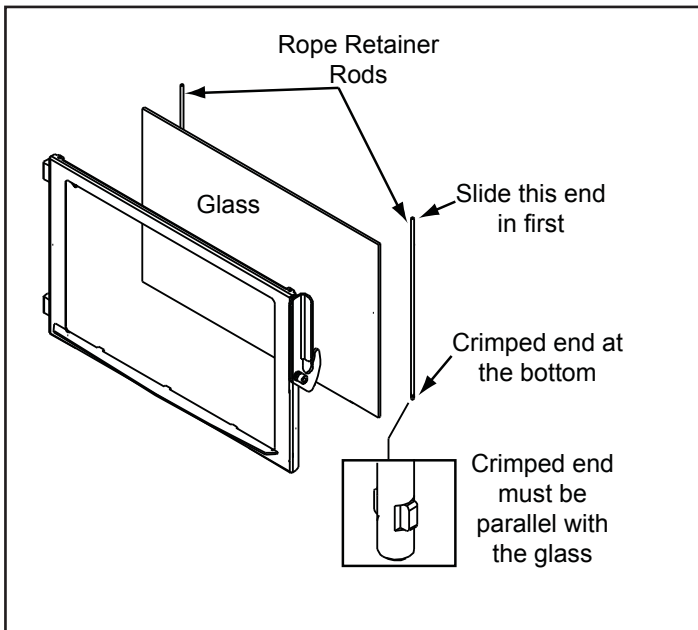

Figure 21.1
4. Slide the retainer rod into the top hole first, and then line up the bottom crimped end with the hole in the door. The crimped end must be parallel with the glass in order to insert it into place. **Figure 21.1.**